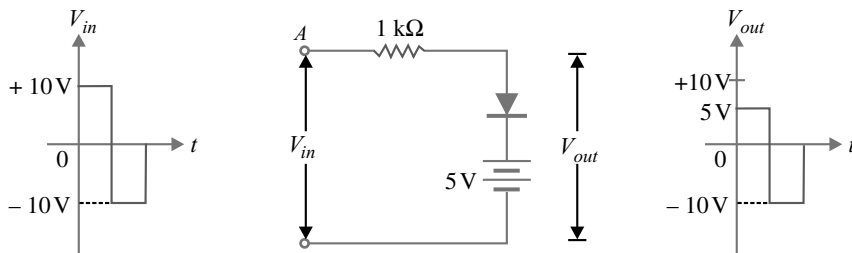

Fig. 16.47
**Example 16.19.** For the input waveform to the clipping circuit in Fig. 16.47, find the output voltage waveform.
**Solution.** The battery of 5 V reverse biases the diode. The point \*A must go positive to 5 V before the diode turns on. For all voltages at point A equal to or greater than 5 V, the diode conducts and the output voltage stays at 5 V. For all negative voltages at A and positive voltages less than 5 V, the diode is reverse biased. When reverse biased, the diode acts like an open circuit and  $V_{out} = V_{in}$ . Thus circuit in Fig. 16.47 is an *adjustable positive peak clipper* that clips all positive peaks greater than battery voltage (i.e. 5 V).